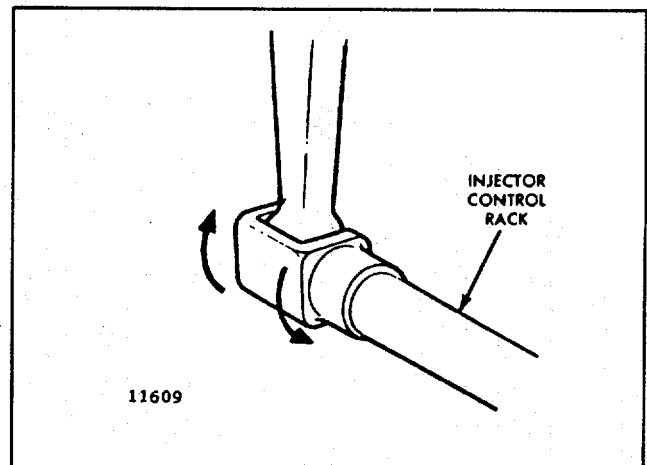
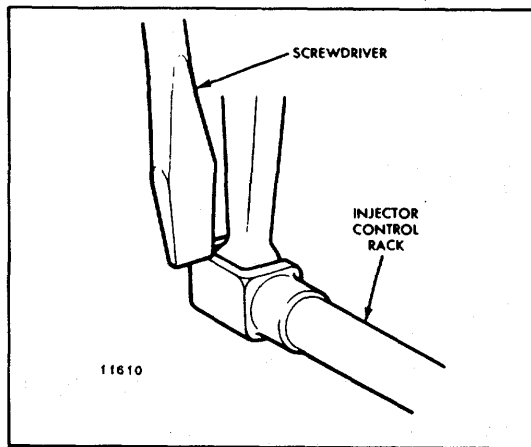

FIG. 5 Checking Rotating Movement of Injector Control Rack
FIG. 6 Checking Injector Control Rack "Spring"
7. To be sure of the proper rack adjustment, hold the speed control lever in the maximum speed position and press down on the injector rack with a screw driver or finger tip and note the "rotating" movement of the injector control rack (Fig. 5). Hold the speed control lever in the maximum speed position and, using a screw driver, press downward on the injector control rack. The rack should tilt downward (Fig. 6) and when the pressure of the screw driver is released, the control rack should "spring" back upward.
- b. Hold the gap adjusting screw, to keep it from turning, and adjust the starting aid screw to obtain the required setting between the shoulder on the injector rack clevis and the injector body (Fig. 5). The setting is measured at the No. 3R injector rack clevis.